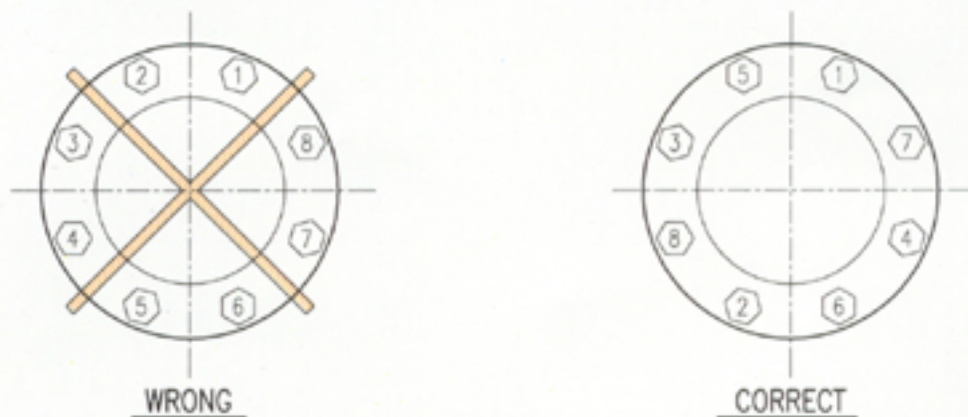

FIG.1
- 9) Tightening the flange bolt regarding the below Fig.1.